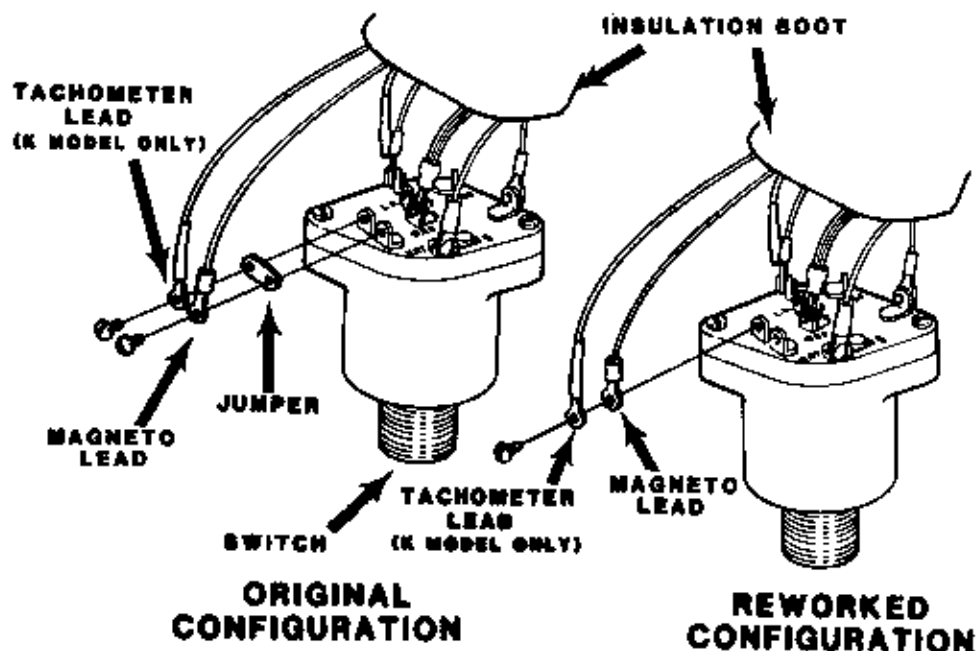

FIGURE 1
5. Locate right magneto terminal "R" on rear of magneto switch assembly (See Fig. 1) that has jumper strap to secondary ground terminal.
FIGURES/TABLES: Figure 1